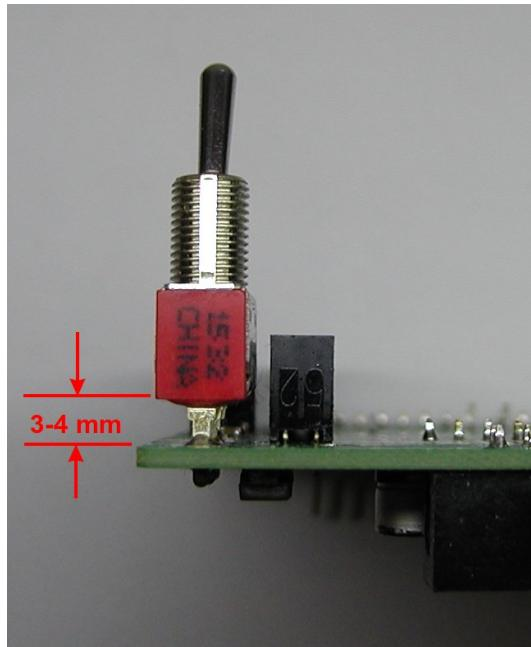

Fig. 12: Power switch mounting
- Finally, we can mount power switch (see Fig. 12). Once again, it's recommended to see how it's aligned with the corresponding hole on the enclosure's front panel first, then adjust its position and start with soldering.